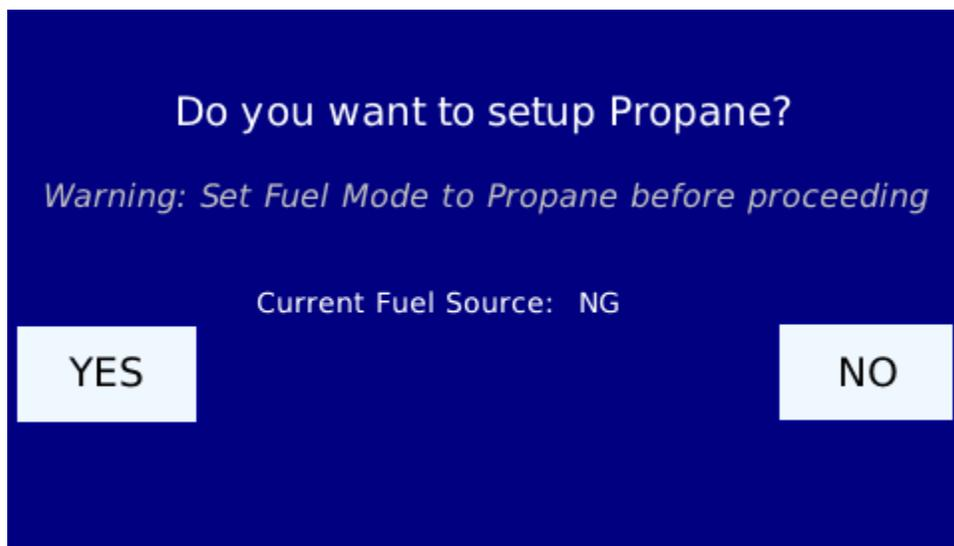

Figure 16 Setup for Propane Fuel
12. If the engine is a dual fuel configuration the propane system can now be set. Pressing "NEXT" brings up the screen in Figure 16. Select "YES" to proceed to setup operation on the propane system. **Note:** If you do not have dual fuel this screen will not be shown and the fuel system setup is complete.